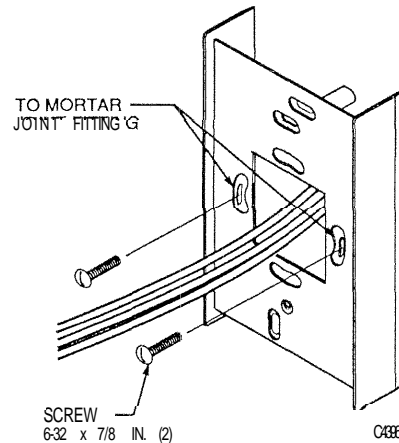

Fig. 9. Baseplate Installation.
- Thread the tubing through the opening in the baseplate. Secure the baseplate with two screws (Fig. 9). Level the baseplate before tightening the screws.